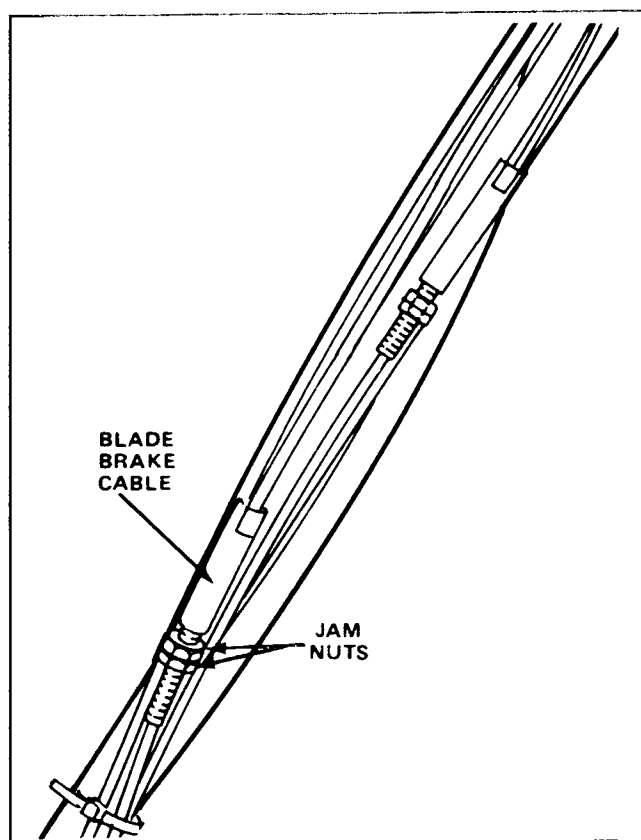

Figure 101
3. Loosen the two jam nuts in the middle of the BBC cable as shown in Figure 101. Rotate the nuts up to make the spring smaller or down to make the spring longer. Continue adjustment until the over-travel spring measures 25.4 ± 1.5 mm ($1" \pm 1/16"$)